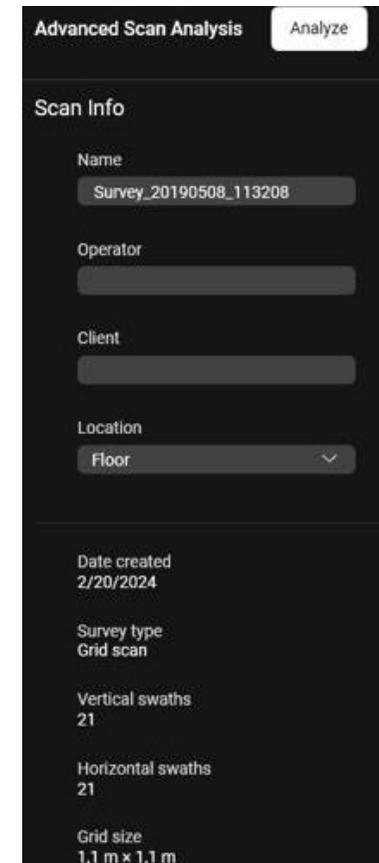

Fig. 27 Advanced Scan Analysis tab
1. Select the Survey to be Advanced Analyzed from the Scans list on the left column. And that Survey shall now be visualized together with the acquisition information shown in the right column (Fig. 27). The “Scan Info” can be customized with **Operators**, **Client**, and **Location** information,
2. From the right panel (Fig. 27) press the  icon,